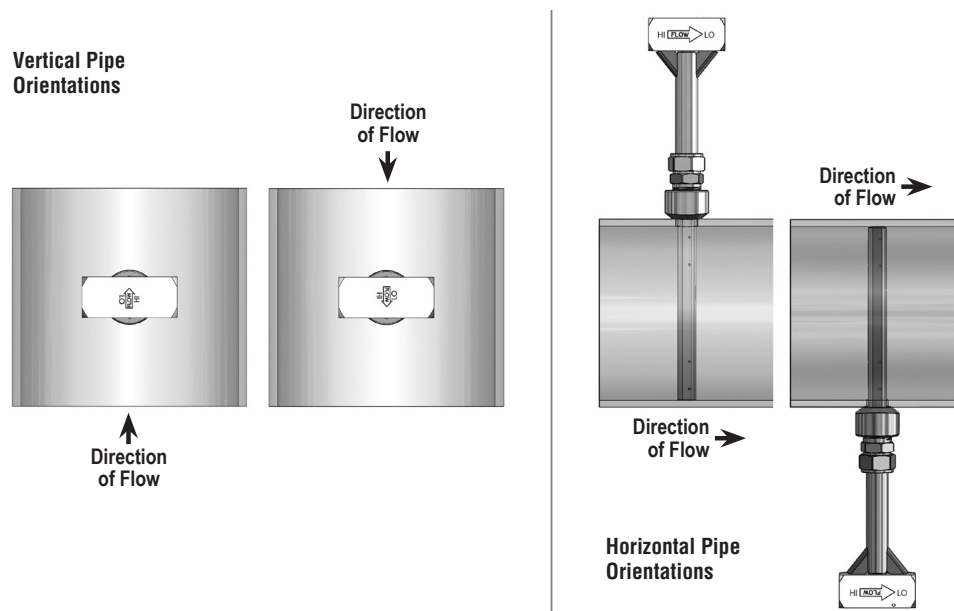

Figure 4. Orientation of Flow Arrow
- Align the head of the sensor so that the arrow labeled "Flow" on the instrument head is in the direction of the flow in the pipe within 3 degrees (Figure 4). Maintain the head in this position for the remainder of the operations.
- While maintaining the “Y” dimension, tighten the compression nut 1-1/4 turns past hand tight. Verify the alignment of the sensor such that the arrow labeled “flow” on the head is in the direction of the flow in the pipe to within 3° (Figure 4). A crescent wrench or pipe wrench can be applied to the head of the sensor to make alignment adjustments.